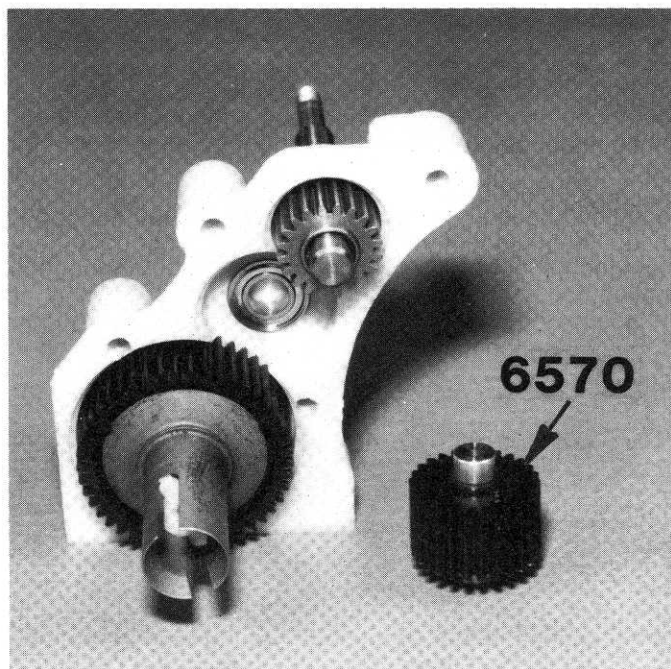

Fig. 54
□ **Fig. 54** Now carefully slip the #6570 idler gear into the center bearing.